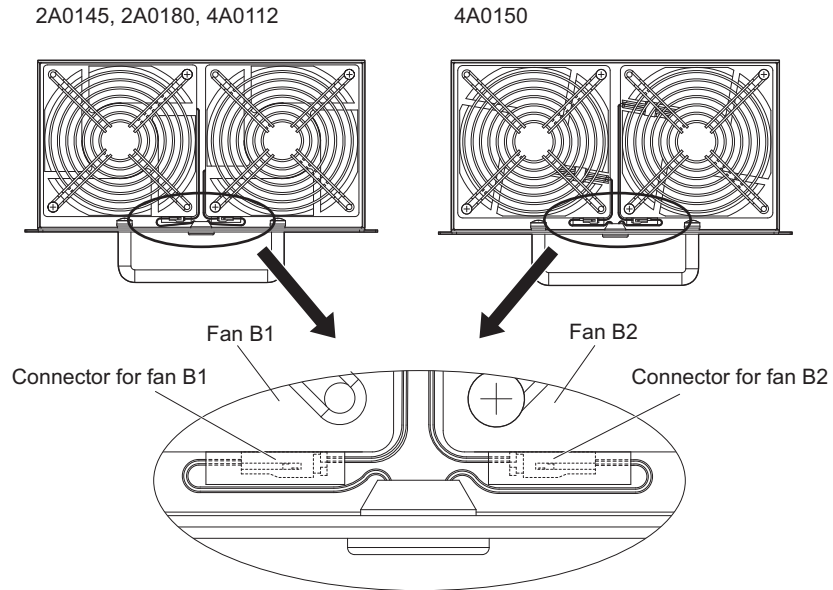

Figure 7.22 Cooling Fan Wiring for Models 2A0145, 2A0180, 4A0112 and 4A0150
- Place the fan connector covered by the tube as shown in Figure 7.22.